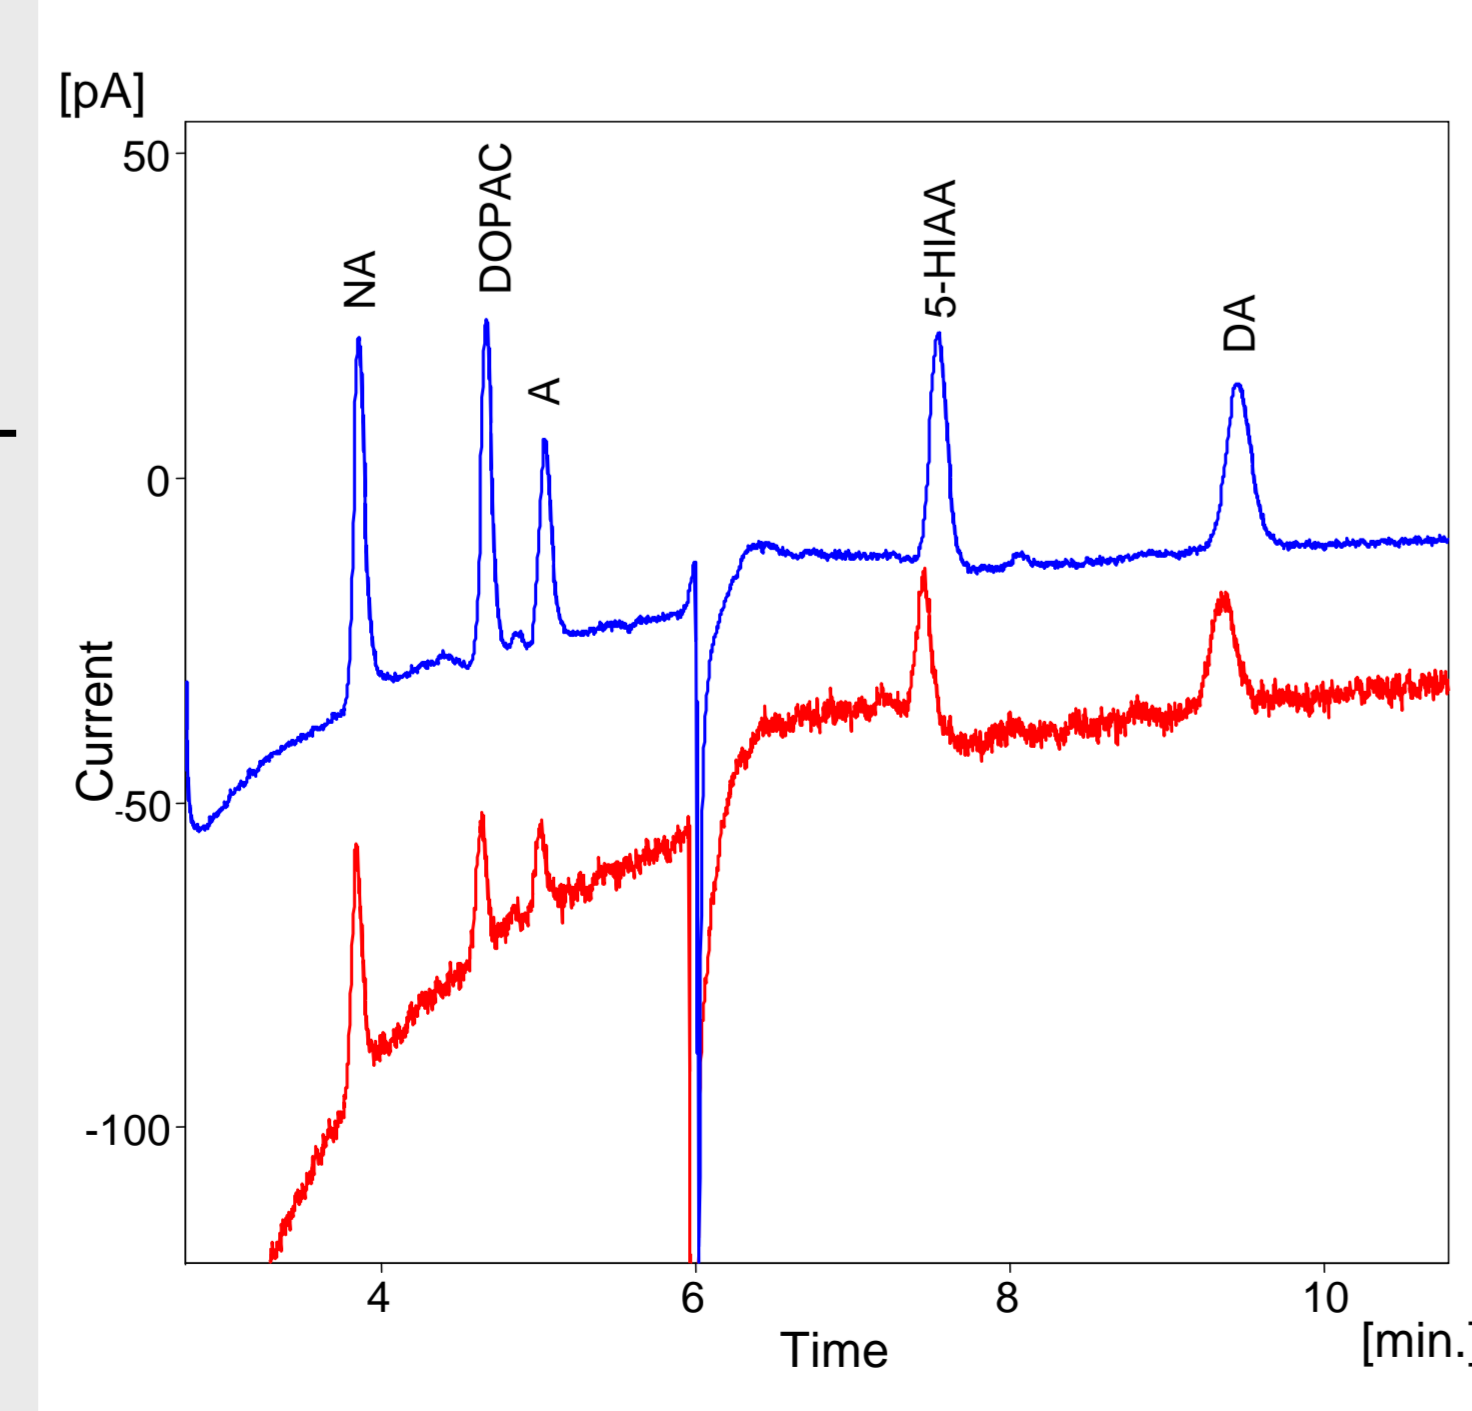

Figure 3. 5 µL injection of a 1 nM mixture of Monoamines and metabolites in 10 mM HAC ringer. Red: Signal of VT-03, Blue: Signal of SenCell.
To demonstrate the excellent performance of the new electrochemical flow cell a SenCell with a 2 mm Glassy Carbon working electrode (WE) was compared to an Antec VT-03 flow cell with identical WE diameter and the signal and noise evaluated (see figure 3). The VT-03 was equipped with a 25 µm FEP spacer, the SenCell was set to an optimum spacing of approximately 10 µm which corresponds to a cell working volume of 30 nL.